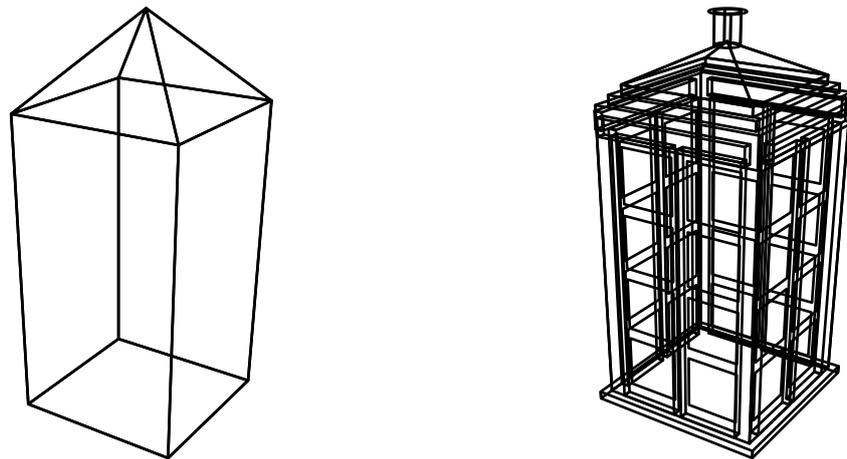

Figure 1: Wire-frame modelling. Note how the version on the right is much harder to 'read' than the one on the left.
- ¶ **Wire-frame** A line drawing but in 3D (see Figure 1). The shape is picked out by its edges. But you just have a frame: there are no real surfaces involved, so you can't define what goes on away from the edges. Plus ¶ things quickly start to look crowded on the screen once the design gets more complex. To solve these problems one needs to introduce the concept of a surface.